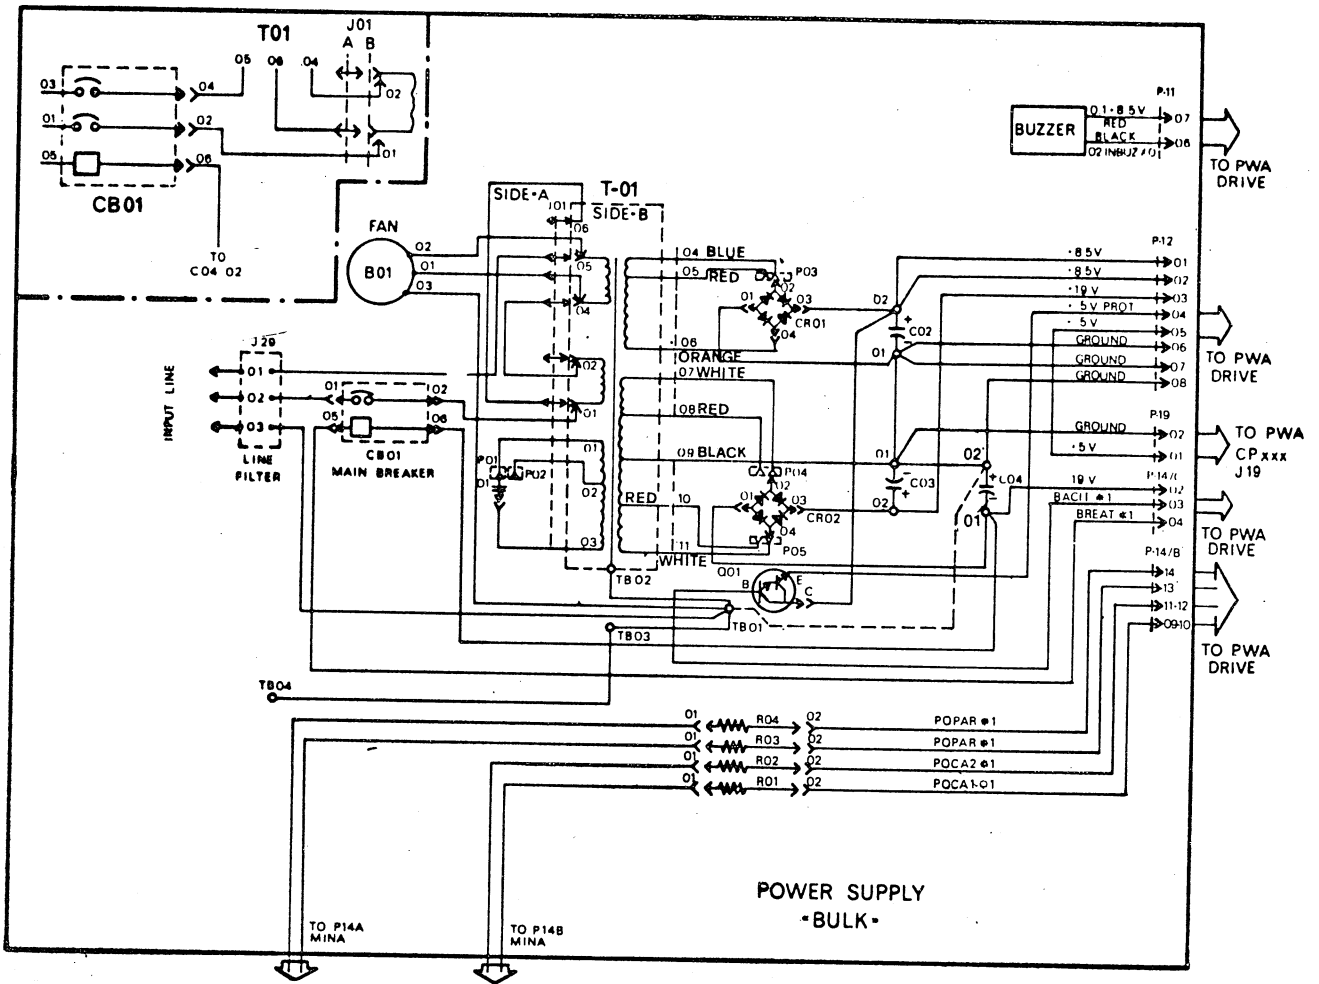

Fig. 6-4
- 7 - Remove the cable from TB01 to C04 02 if the ground distribution points is not the SPPL (See dotted fine shown in fig. 6.4)